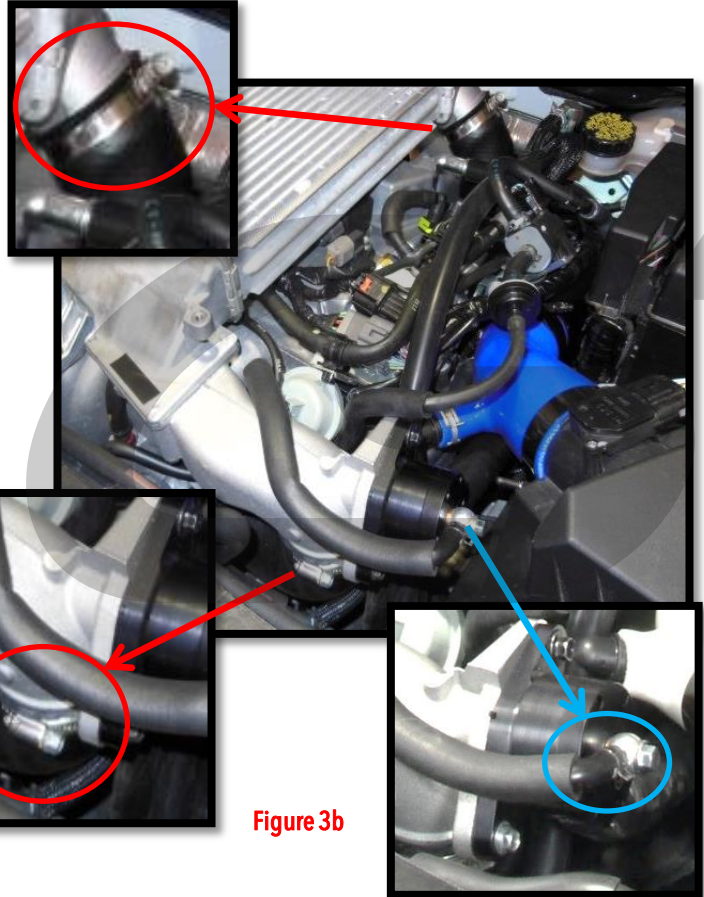

Figure 3b
- c. Loosen the clamps that connect the boost tubes to the intercooler using a 10mm socket. Clamps circled in red in Figure 3b.
- d. Detach the vacuum signal hose from the top of the BPV. Use pliers to release the clamp, then pull the line off the barbed fitting. Hose/clamp location circled in blue in Figure 3b.